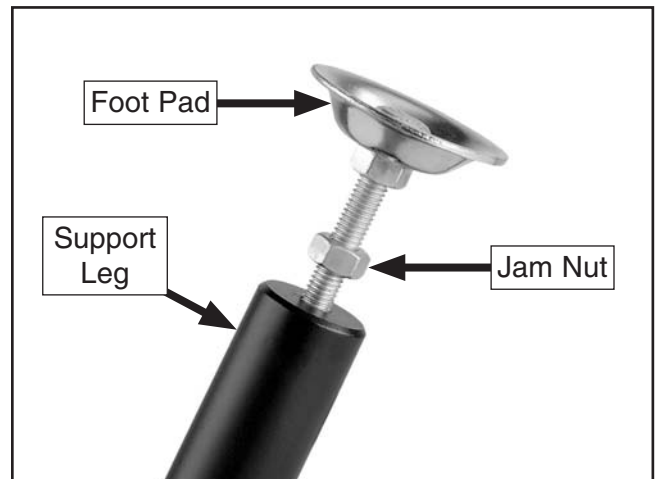

Figure 7. Foot pad threaded into the support leg.
3. Thread the foot pad assembly into the bottom of the support leg, as shown in **Figure 7**. For now, do not tighten the jam nut up to the leg so that you can adjust the height of the leg in a later step.